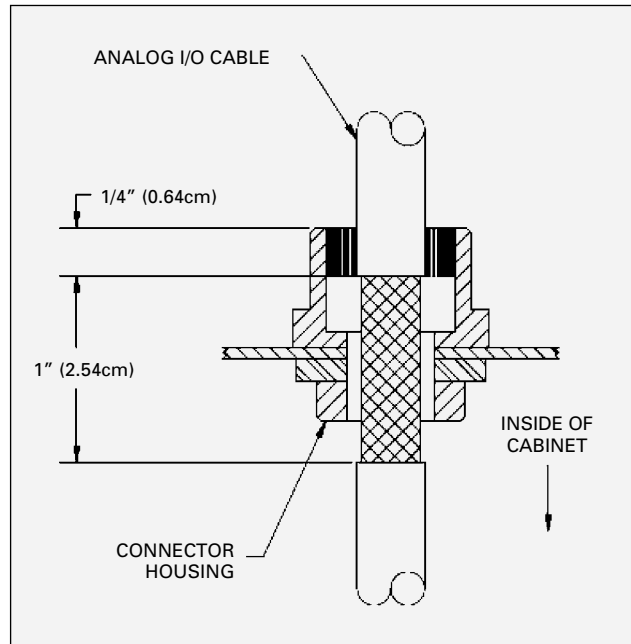

Figure 8: I/O Cable Stripping
2. Route the desired length of I/O cable through the connector housing and mark 1" span of cable that passes through the connector housing to be stripped to braid (See Figure 8).